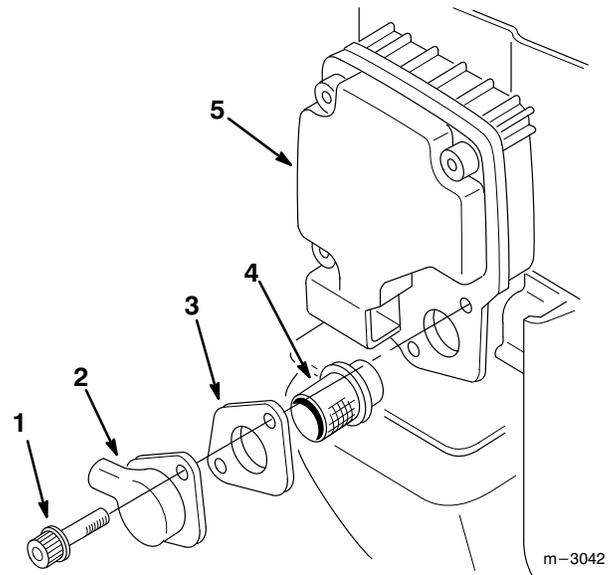

Figure 27
6. Reinstall the spark arrester, gasket and tail onto the muffler, then reinstall and tighten the two socket head screws (Fig. 27).